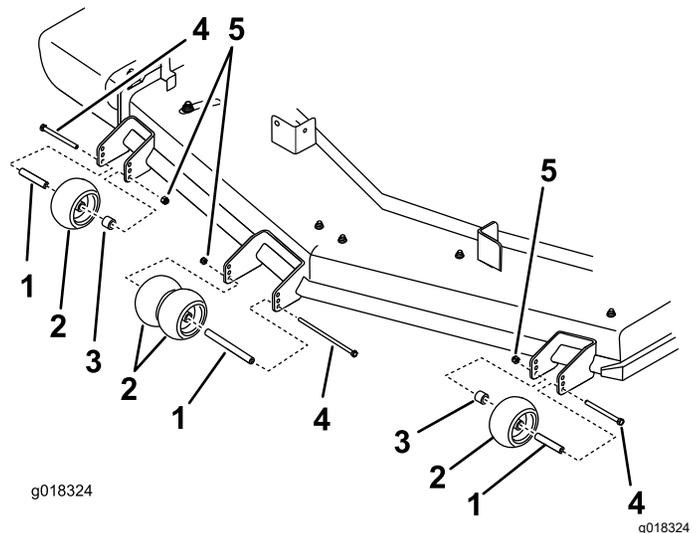

Figure 21
4. Ensure that the spacers and bushings are installed (Figure 21).